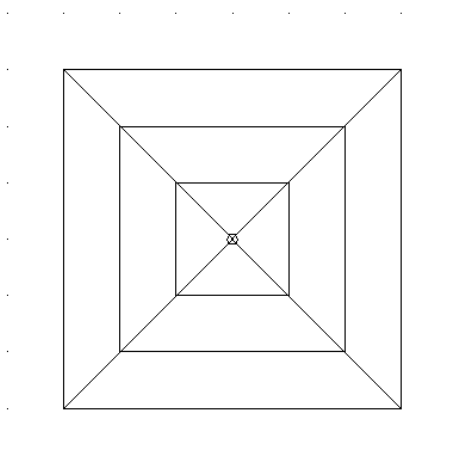

Figure 4-86
7. Finally select *Draw/Circle/Center Radius*. Select *Right-click/Snaps/Midpoint* then place the cursor in the center left click the mouse button and move the cursor slightly away from the center. Notice the circle follows the cursor. The radius of the circle is given on the status bar (d). Make d about 3ft (1m). Left click to place. The symbol should look like Figure 4-86.